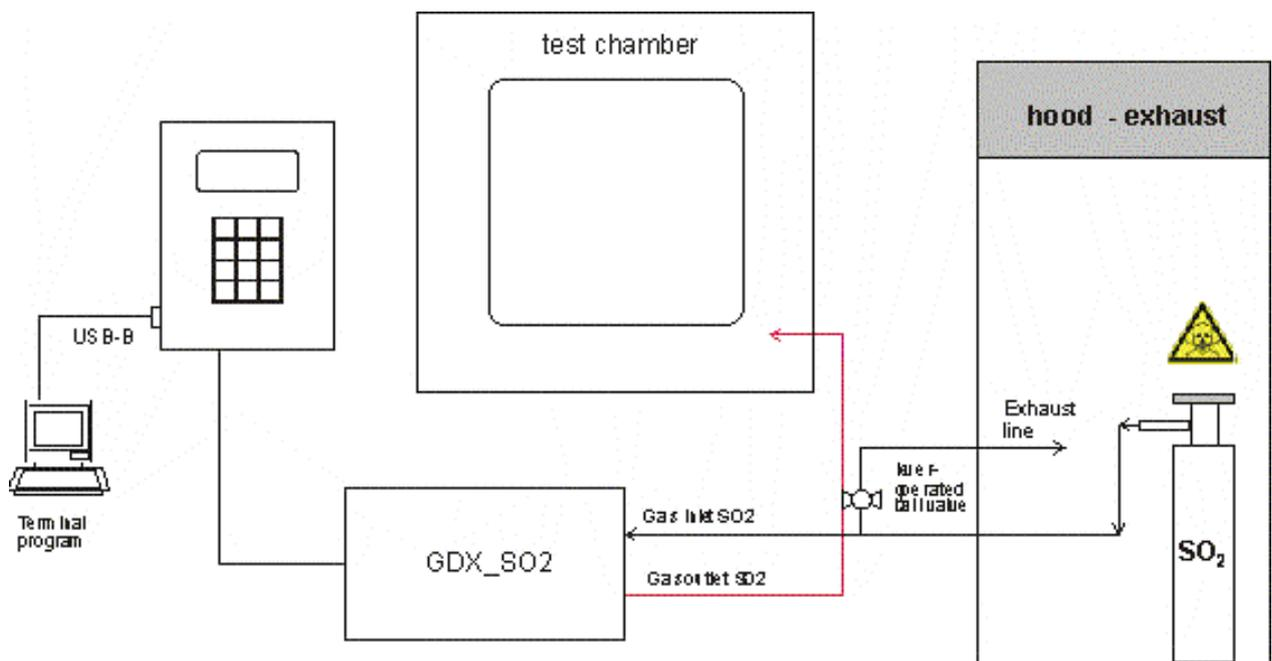

Fig. 1: Setup GDX_SO₂
Assembly of gas tubings have to be performed under a hood ! – according to fig1.
1.  Install the exhaust tubing into a hood according to fig.1. Close the lever-operated ball valve and the cap.